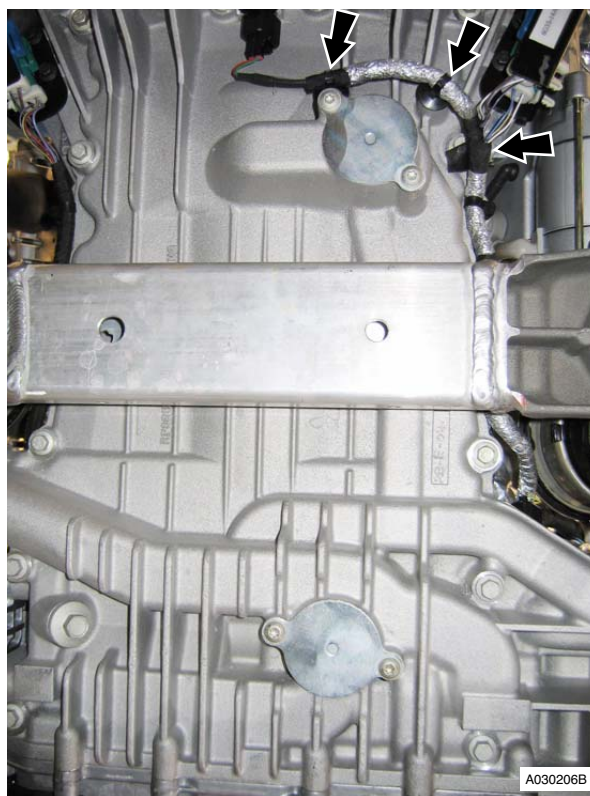

Figure 7
16. Release harness clips (x6) from sump (see Figure 7).